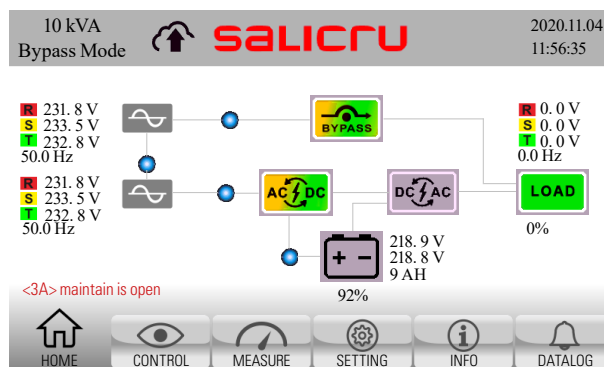

Fig. 56. Main screen of the control panel with manual bypass contact open warning.
4. The unit reports the current status via the main screen with the warning <3A>"maintain is open". See Fig. 56.
7. Check that the UPS supplies voltage simultaneously to the output via the maintenance bypass switch and the static bypass: check that the UPS is in bypass mode and the alarm <3A> shows "maintain is open", and the synoptic on the main screen of the control panel is as shown in Fig. 56.